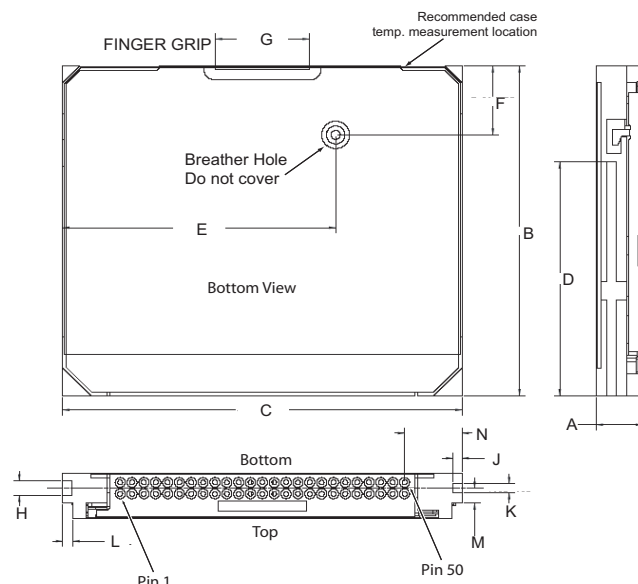
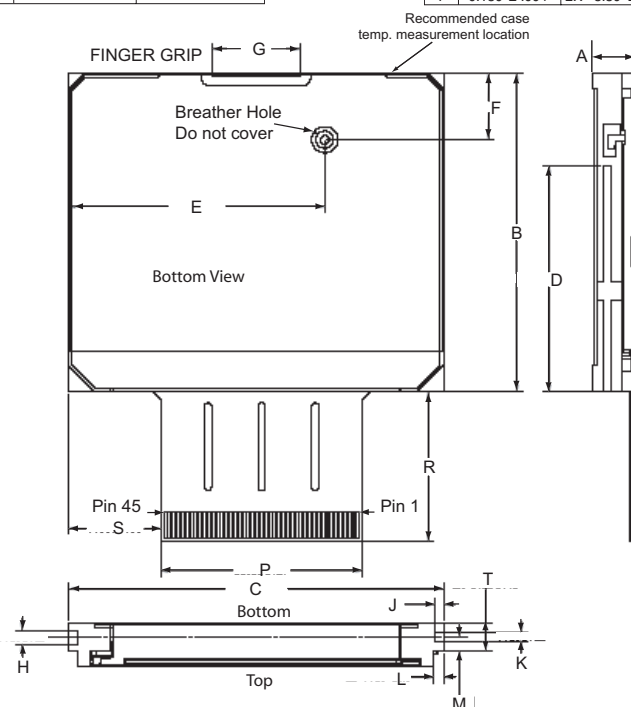

Figure 2 ST1 Series - CF+ dimensions—end, top, and side views.
Figure 3 ST1 Series - FX dimensions—end, top, and side views
- Do not cover or otherwise obstruct the breather hole on the top of the drive. (See Figure 2 and Figure 3)
Note. This drive is designed for a product that supplies interface signals and +3.3V power through the compact flash connector. Refer to your consumer products manual to determine if your Seagate ST1 Series disc drive is compatible. See Figure 2 for drive dimensions.
Follow installation instructions for media devices provided in your product's user manual to determine if your Seagate ST1 Series disc drive is compatible. See Figure 3 for drive dimensions. Follow all handling precautions/electrostatic discharge protection suggestions when installing any drive.